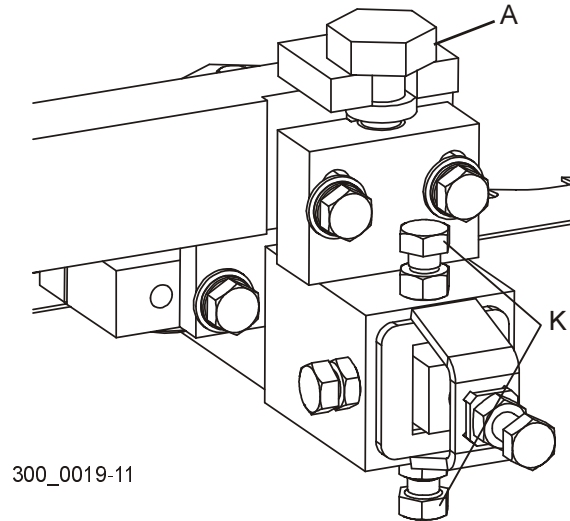

FIG. 7-37
See Figure 7-37. Loosen the jam nuts on bolts (K). Adjust the bolts up to tilt the blade down. Adjust the bolts down to tilt the blade up. Retighten the jam nuts and recheck the